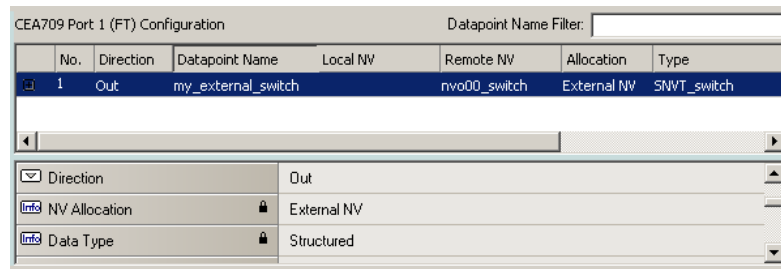

Figure 111: Manually created external NV in the port interface definition.
7. The external NV now appears in the data point list as shown in Figure 111. For external NVs which are inputs to the L-Proxy, adapt the poll cycle property to your needs.